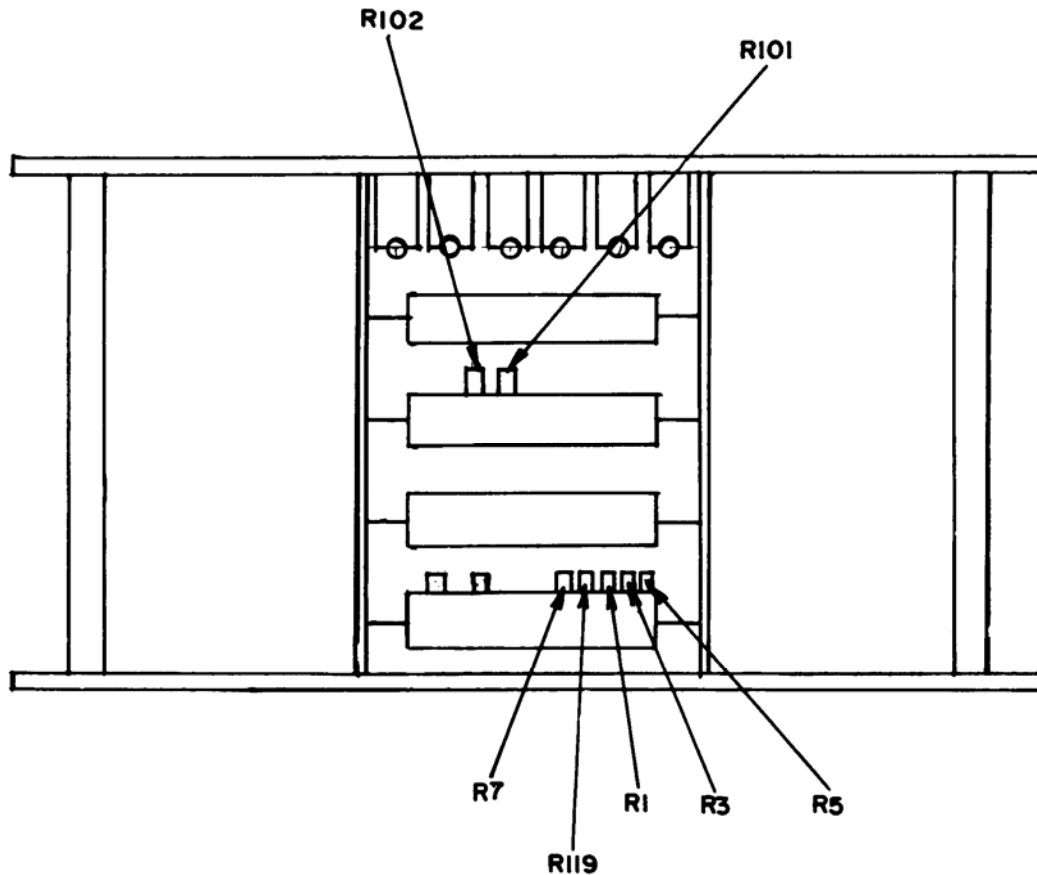

Figure 3. Test instrument - front view.
- (1) Adjust R1 (fig. 3) for a frequency counter indication of 120 ms (R).
- (2) Adjust R5 (fig. 3) for a frequency counter indication of 3.5 s (R).
- (3) Adjust R3 (fig. 3) for a frequency counter indication of 5.0 s (R).
- (4) Adjust R119 (fig. 3) for a frequency counter indication of 1000 ms (R).
- (5) Adjust R7 (fig. 3) for a frequency counter indication of 3.0 s (R).
- (1) Adjust R101 (fig. 3) for 1155 Hz indication on multimeter (R).
- (2) Adjust R102 (fig. 3) for 1095 Hz indication on multimeter (R).